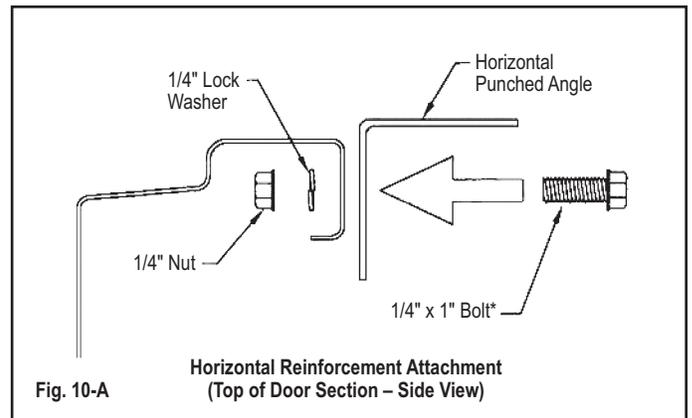

Fig. 10-A
To avoid damage to your door, you must reinforce the top section of the door in order to provide a mounting point for the opener to be attached. You will need one (1), two (2) or three (3) pieces of 1-1/4" x 1-1/4" minimum punched angle at least 13 gauge or 3/32" thick from your local hardware or building supply store. Figures 10-B through 10-E show how punched angle is to be affixed to door.
Attach the horizontal punched angle (the longer piece) to the top section as shown in Figure 10-A. Angle iron may need to be trimmed depending on door section height and distance between center stiles. Some doors with struts may not need a horizontal angle; see Figures 10-B through 10-E to identify the attachment method for your specific door.